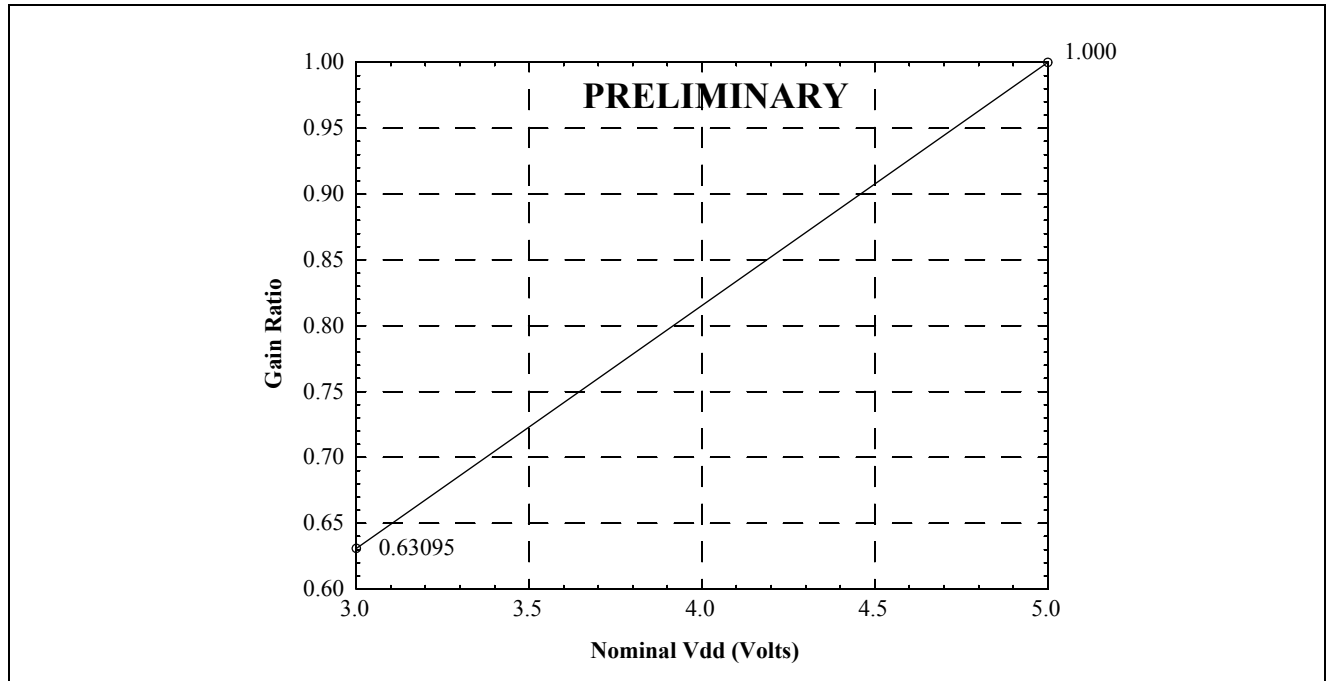

Figure 9 - GS1 and GS2 Gain Ratios as a Function of Nominal Vdd
The MT88E46 is designed to operate from a fixed voltage power supply between 3 and 5 V nominal. A $\pm 10\%$ variation from the nominal voltage is allowed. Its FSK and CAS reject levels are proportional to V_{DD} . When operated at V_{DD} equals $3\text{ V} \pm 10\%$, to keep the FSK and CAS reject levels as at $5\text{ V} \pm 10\%$, and for optimal speech immunity, the GS1 and GS2 op-amp gains should be reduced from those of 5V. Gains for nominal V_{DD} 's between 3 and 5 V can be obtained by interpolation between the 3 V and 5 V values shown in Figure 9.
- For the desired nominal Vdd, use Figure 9 to calculate approximate Av.